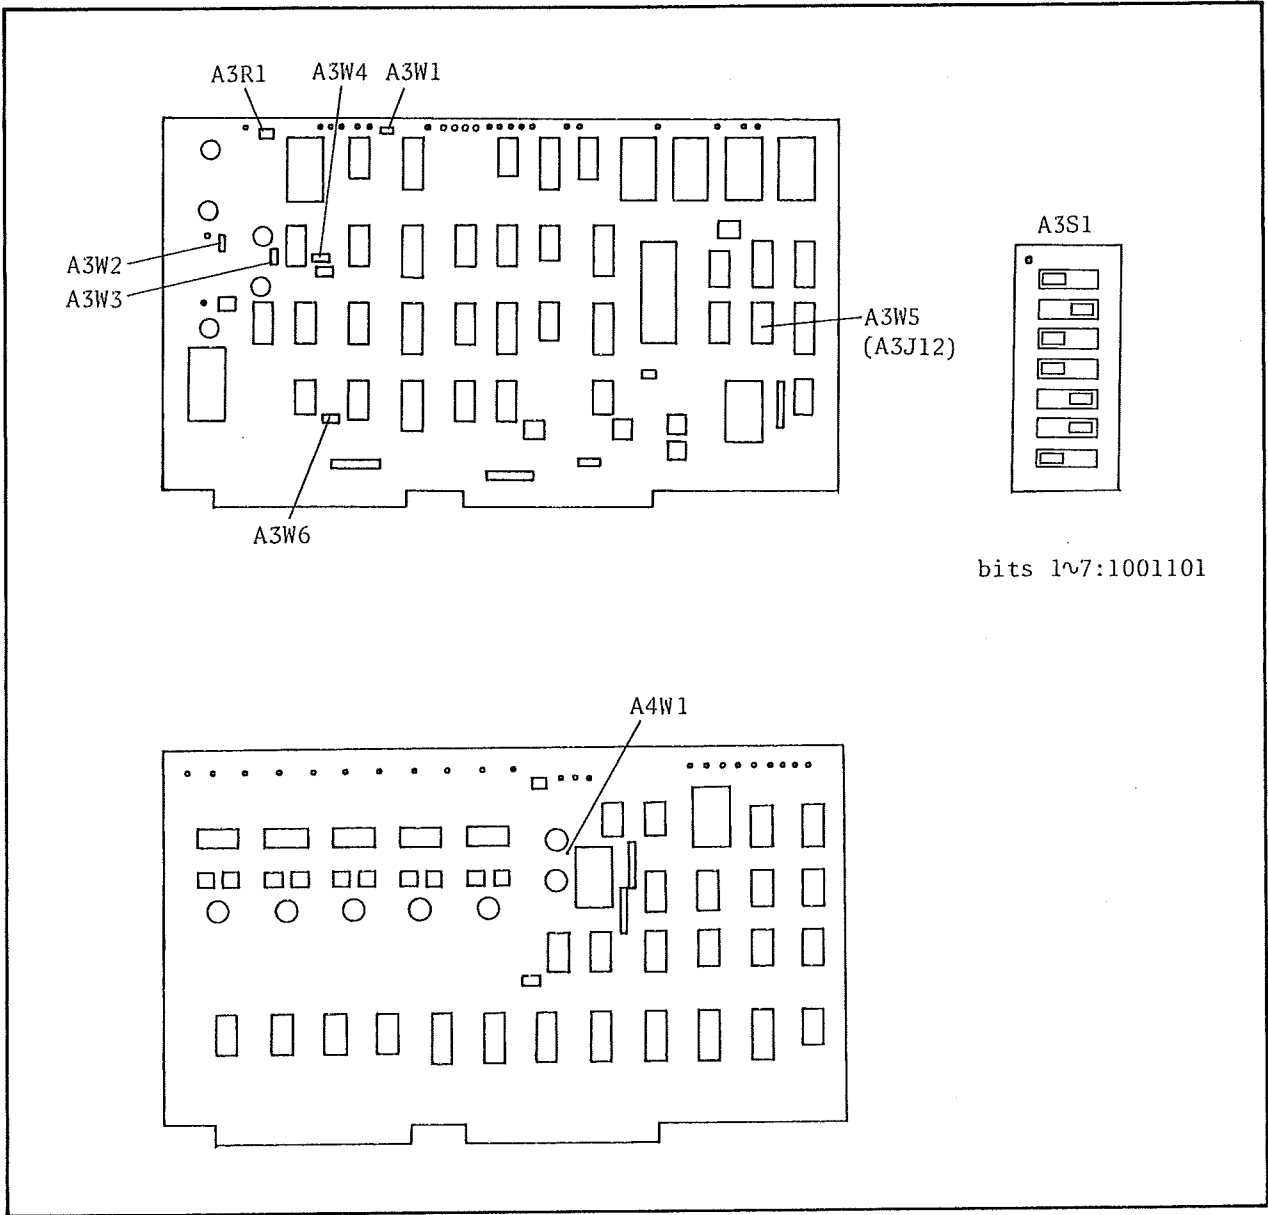

Figure 5-17. Check/Adjustment Point Locations.
1. Remove the A3 SMU Control and A-D Converter Board and the A4 D-A Converter Board, and set A3S1 (SW1) to 1001101. See Figure 5-17 for the location of A3S1.
5. Adjust A3R1 (see Figure 5-17 for the location) until the LED annunciator pattern indicates "pass" as shown in Figure 5-16.